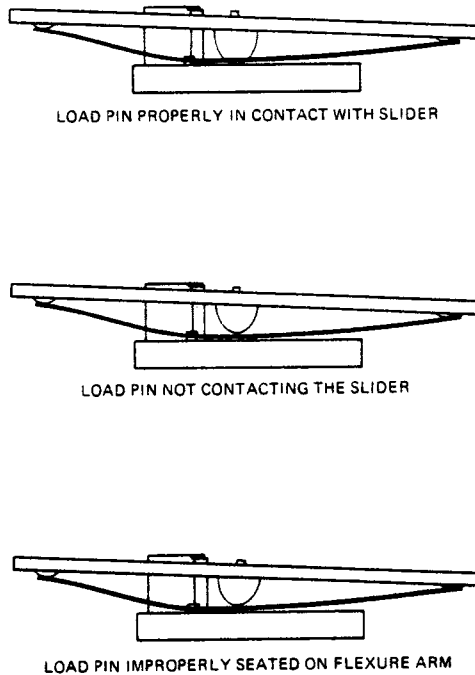
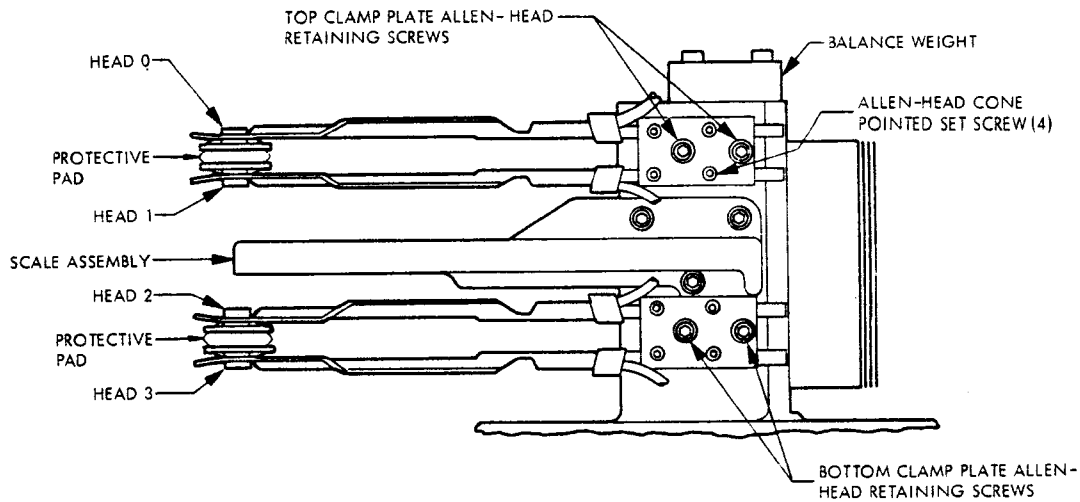

Figure 6-43. Load Pin Seating
Figure 6-44. Heads Installed on Positioner Carriage (200 tpi)
Proper seating of the load pin is essential to ensure gimbaling and flying characteristics of the ceramic slider. Examples of correct and incorrect positions of the load pin are shown in Figure 6-43. If any of the incorrect examples exist upon any head or if the gimble spring is damaged, the head assembly must be replaced.
- (3) Remove the dust cover (refer to Paragraph 2.2).
- (4) Disconnect head connectors from the Read/Write PCBA.
- (5) Disconnect all connectors from the Read/Write PCBA and remove the PCBA from the disk drive.
- (6) Prepare two lint-free pads, approximately 1-inch square and 1/8-inch thick. Lay a lint-free wipe on a clean flat surface on which to lay the heads when they are removed from the carriage.
- (7) Refer to Figure 6-44 for parts identification.
- (8) Insert between the ceramic sliders of each pair of heads the pads prepared in Step (9); these will protect the ceramic sliders from clashing together as they are being removed.
- (9) Loosen the four recessed Allen head setscrews in the clamp plate(s) to a position where the point of each screw is recessed below the surface of the clamp plate.
- (3) Examine the ceramic slider of each head for cleanliness. Also inspect gimble spring and slider pivot for proper alignment. Refer to Figure 6-43.
- (4) Prepare two lint-free wipe pads, approximately 1-inch square and 1/8-inch thick; these pads will be used to separate each pair of heads to prevent possible damage to the ceramic slider during installation.
- (5) Note that there are two V-shaped indentations on the side of the die-cast support arm. Fore and aft head alignment of several thousands of an inch can be made when the pointed screws in the clamp plate engage with the V slots in the support arm. (Figure 6-44 illustrates the support arm used on both the 100 tpi and 200 tpi models.)